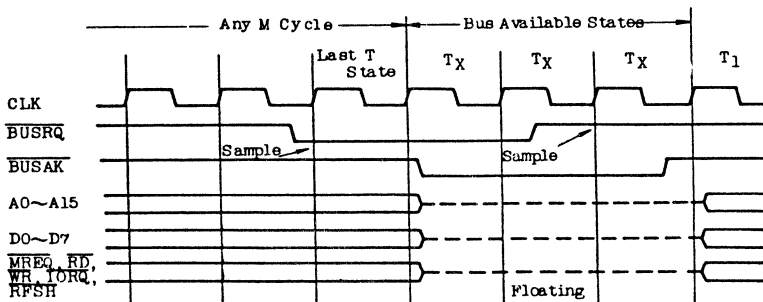

FIGURE 10. BUS REQUEST/ACKNOWLEDGE CYCLE
- Fig. 10 Bus Request/Acknowledge Cycle
Figure 10 illustrates the timing for a Bus Request/Acknowledge cycle. The  $\overline{\text{BUSRQ}}$  signal is sampled by the CPU with the rising edge of the last clock period of any machine cycle. If the  $\overline{\text{BUSRQ}}$  signal is active, the CPU will set its address, data and tri-state control signals to the high impedance state with the rising edge of the next clock pulse. At that time any external device can control the buses to transfer data between memory and I/O devices. (This is generally known as Direct Memory Access [DMA] using cycle stealing).